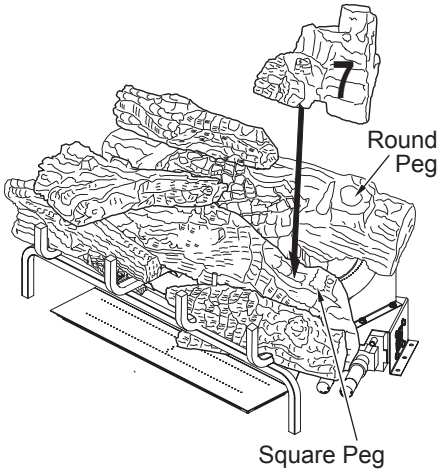

Figure 50 - Installing Log # 7
7. Place the right rear chunk log (#7) on top of the middle log (#2) and rear log (#1) as shown in Figure 50, page 24. Match the round peg on the top of the rear log (#1) with the round hole on the bottom of the right rear chunk (#7) log and square peg on the top of the middle log (#2) with the square hole on the bottom of the right rear chunk log (#7).